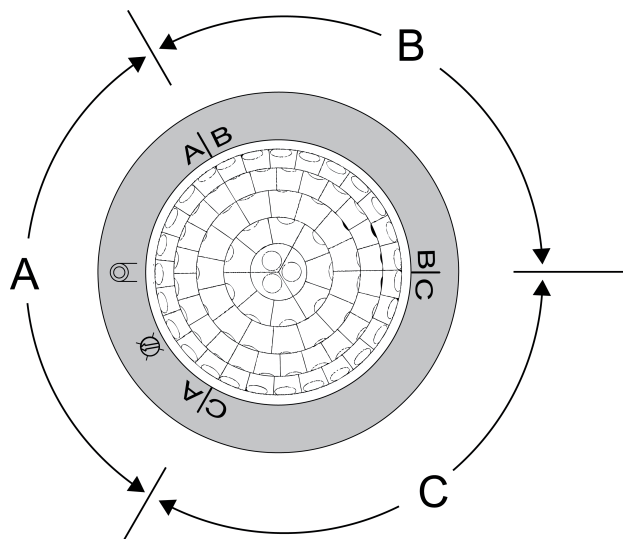

Figure 6: Arrangement of the areas A, B and C
- Align the connection box (1) in such a way that the areas A, B and C match the structural conditions. The arrangement is clearly evident under the decor ring (Figure 6).